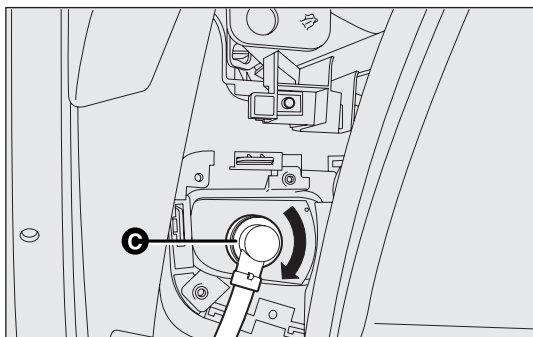

fig. 141
- remove the bulb holder cover C-fig. 141 by turning it anticlockwise;
- refit the bulb holder cover C-fig. 141 by turning it clockwise and locking it correctly;